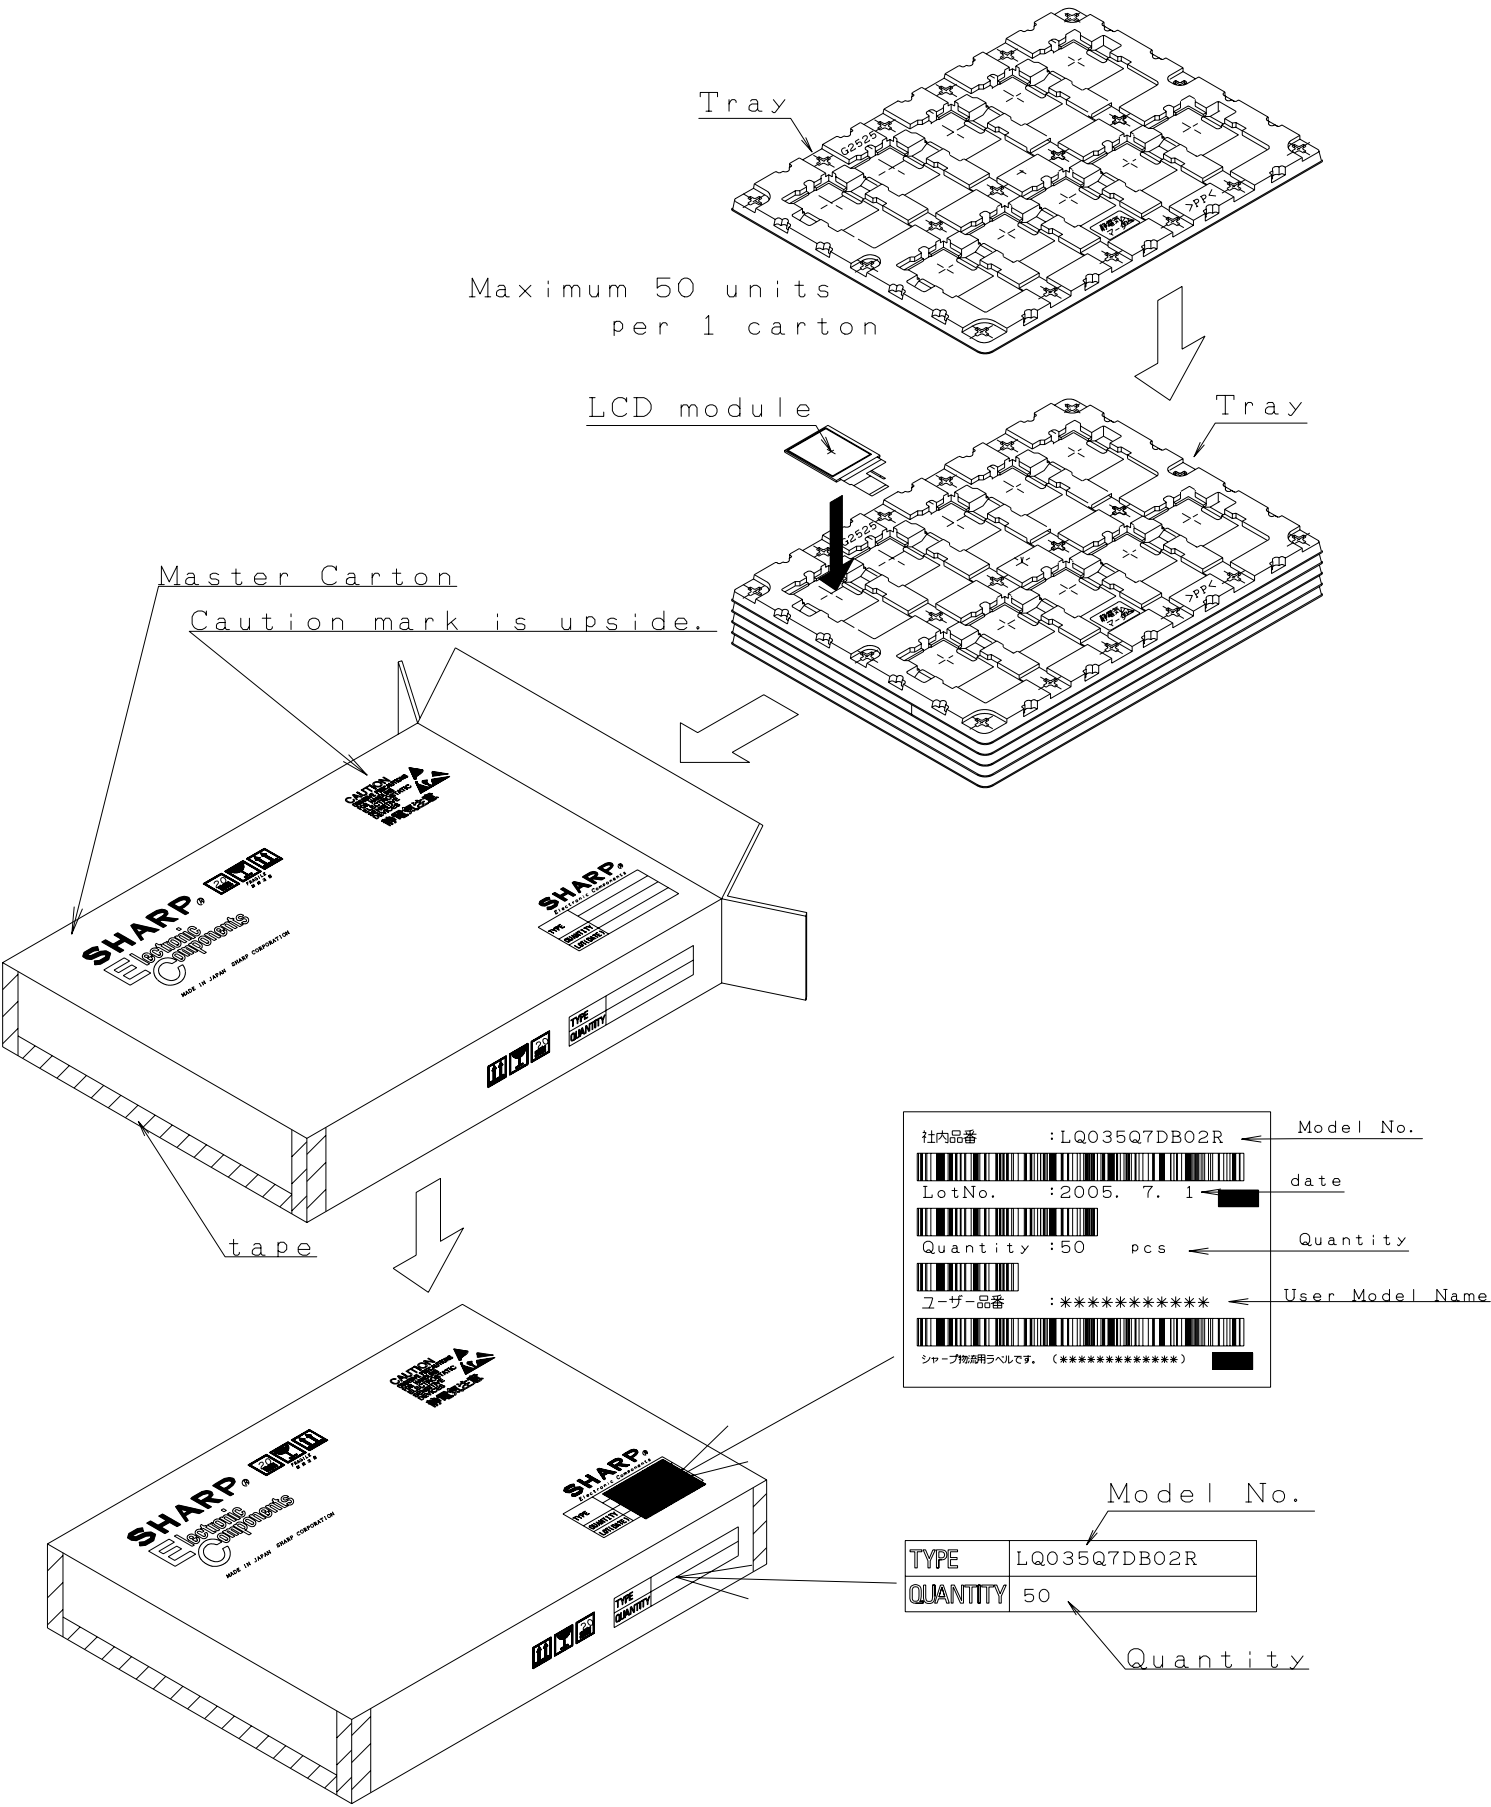

Fig.3 Forwarding Form
16)Forwarding form(see Fig. 3 Package Form)